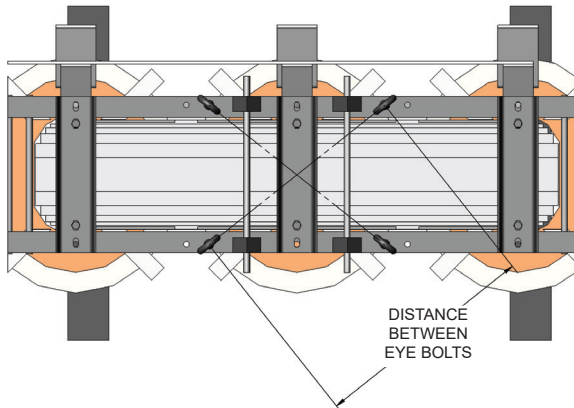

FIGURE 4
- (2) Inspect that the lifting eye bolts or lifting angles are properly seated and tight.
- (3) Verify lifting capacity of chains or slings, crane or other means refer to the weight of transformer on the nameplate.
- (4) Measure the distance between the eye bolts or lifting angles (see figure 4 & 5).